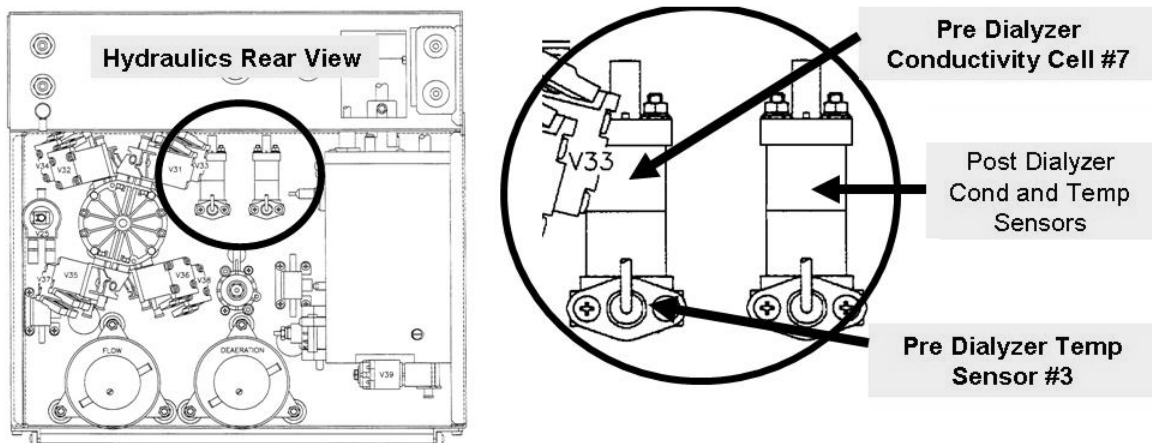

Figure 57 – Hydraulics Rear View
- c) ENSURING a Flow Error NEVER occurs allow ten (10) FULL minutes BEFORE continuing to part d!
- No **FPRE** is NOT within +/- 400 of **Pre Offset**! Pre Dialyzer Conductivity Cell #7 is bad (see Figure 57, page 344).
- Yes **FPRE** within +/- 10 of **Pre Offset** +/- 10! Either Conductivity Cell #7 was not plugged into distribution board position "X7-COND" properly OR is bad (to LOCATE Cell #7 refer to Figure 57 (page 344)).